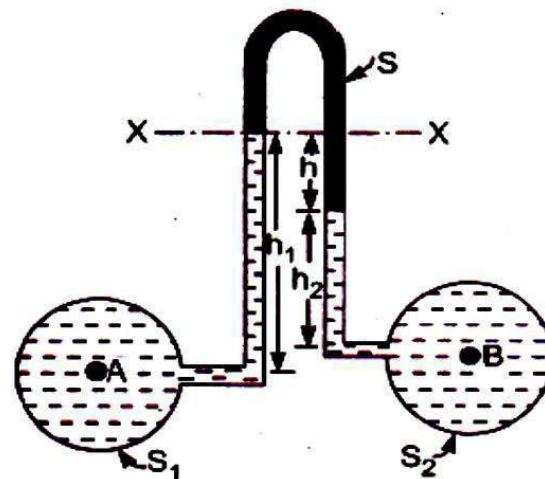

Fig. 2.10 Inverted U-tube differential manometer
- It consists of an inverted U-tube having two ends are connected to the pipes at points A and B whose difference of pressure is to be measured as shown in Fig. 2.10. It is used for measuring the difference of low pressures. Let the pressure at A is more than the pressure at B.